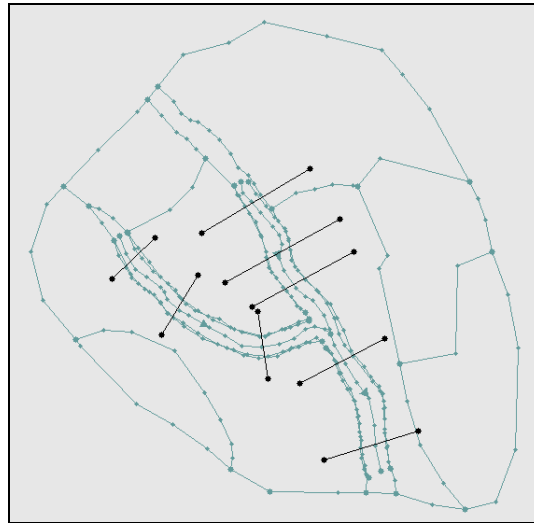

Figure 7 Cross section coverage
3. Create at least two cross sections on each reach by clicking a point on one side of the reach then double-clicking a point on the other side of the reach as shown in Figure 7.